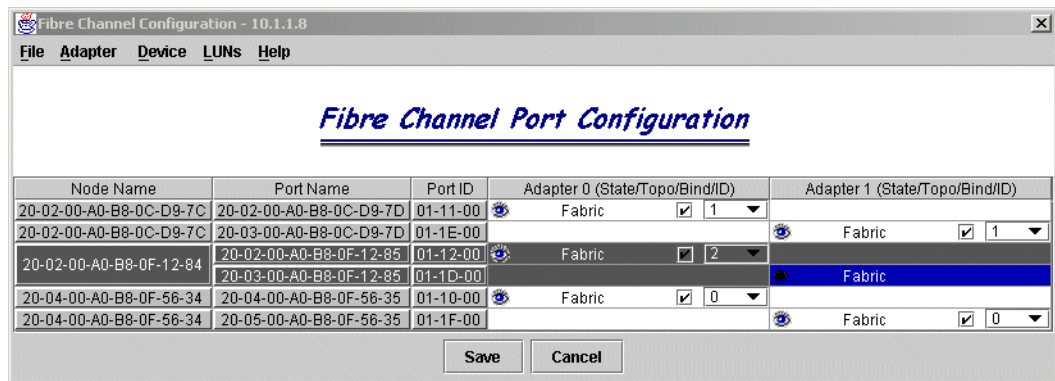

Figure 5-11 FAST MSJ Fibre Channel port configuration
- The port configuration windows gives you a view of the Fibre Channel subsystems that are seen through each host adapter. The left column shows the two FASTs attached to the system with node names. Each FAST houses two individual controllers, each with its own Fibre Channel port name, which is listed in the second column. The last two columns represent the host adapters in the system. Since Linux is not multipath aware, one adapter is always visible to the operating system, noted by a small eye in the particular entry, and the other one is hidden (Figure 5-11). Configure both adapters: One as visible and the other as hidden.
9. If you finished configuring your logical drives, close the LUN configuration window and save the configuration to the host system in the Port Configuration window (Figure 5-11 on page 132). A confirmation appears if the configuration saved successfully.